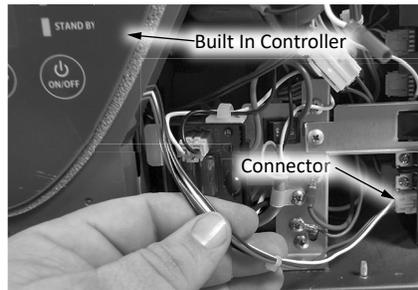

Figure 77: Built-in controller removal.
- 4 Locate the wire on the built-in controller and follow it to the computer board. Carefully disconnect the built-in controller from the computer board. Reference the wiring diagram on page 28 or in the maintenance sheet. Set the built-in controller aside for re-installation. See Figure 77.
13 Attach the built-in controller to the front of the water heater. Reconnect the wire from the built-in controller to the computer board. See Figure 77.